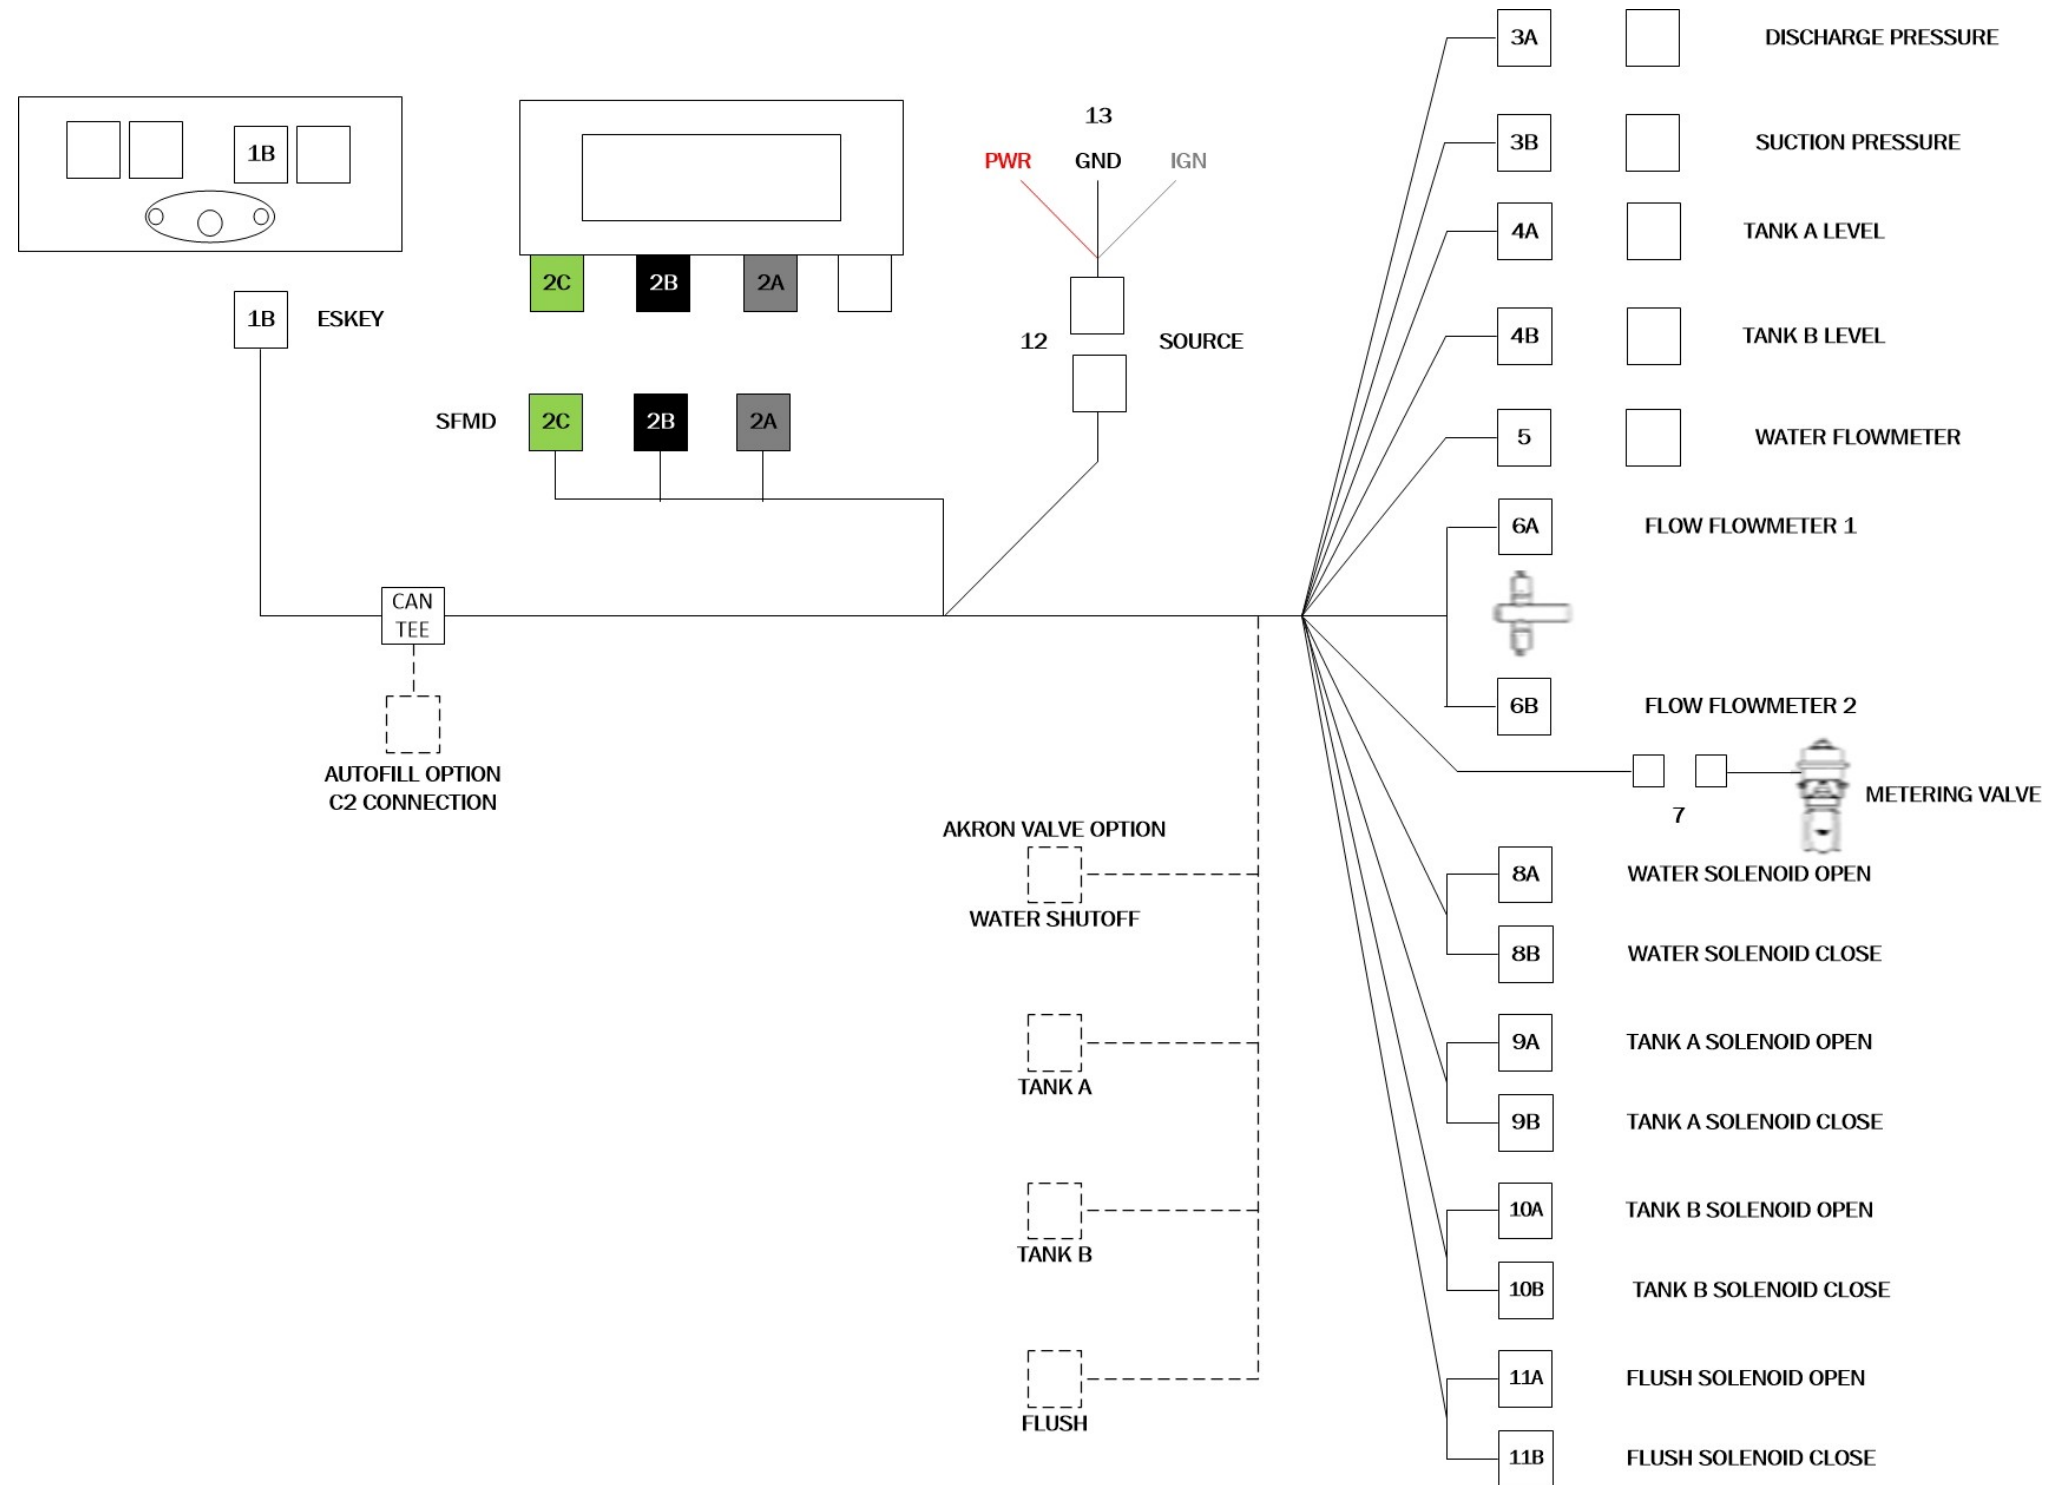
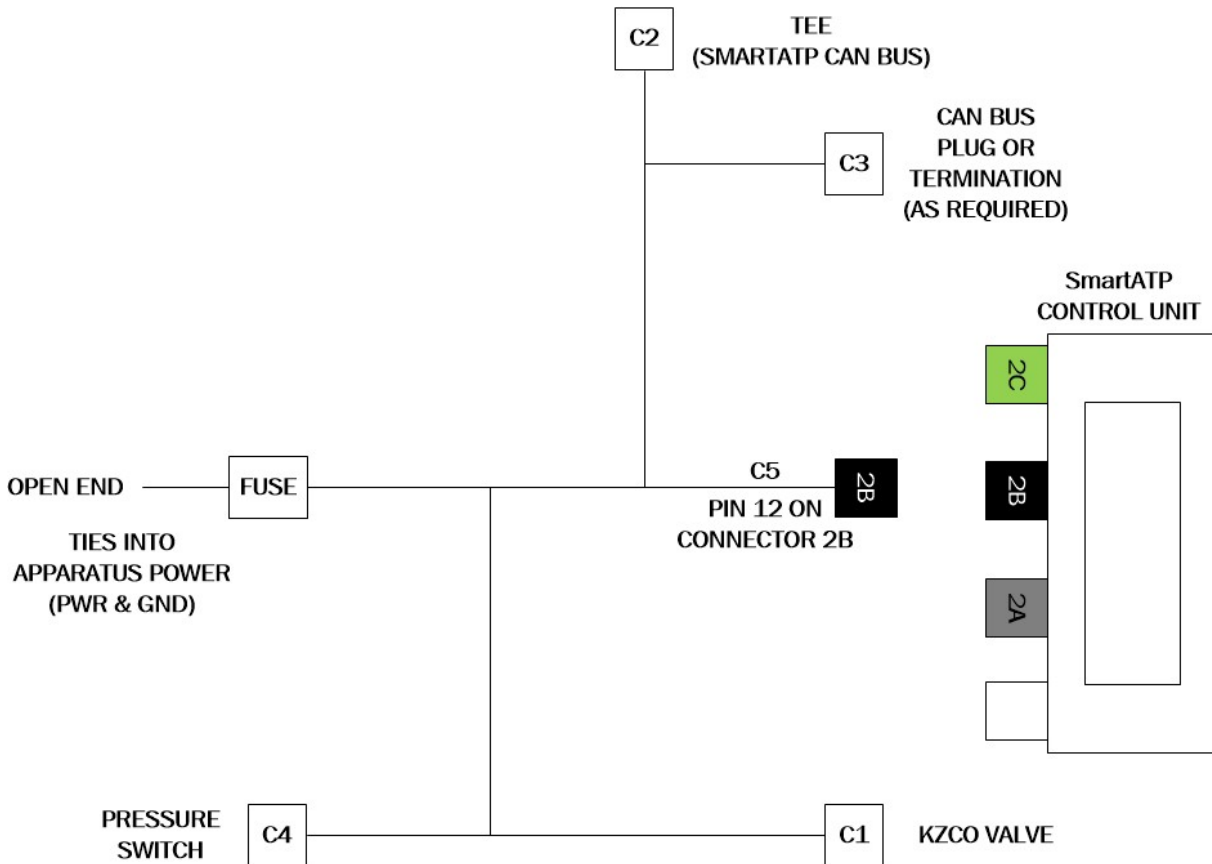

Figure 2. SmartATP Connection Diagram
Figure 3. Autofill Connection Diagram
Figure 2 depicts the two main wiring harnesses used for the SmartATP and includes the associated connections. Use care when connecting the harness to the SmartATP control unit, verify the connector orientation (the connectors are keyed to prevent reverse orientation) before applying the force required to seat the connector. The force required to seat a connector is very close to the force that defeats the connector keying.
When standard solenoid/air actuated valves are utilized ONLY the components shown using solid lines (on Figure 2) are supported and the system uses the 513-00137-000 wiring harness. The SmartATP does NOT include the eight (8) open/close relays/solenoids which are required but OEM supplied.
When the optional Akron Brass valves are utilized additional CAN connections are required for the valves, ONLY the valves shown using dotted lines (on Figure 2) are supported, and the system uses the 513-00137-001 wiring harness. Additionally, the Akron Brass valves require CAN bus registration. (Refer to Section 5.16, Optional Akron Brass Valves, in the SmartATP OIM manual [FSG-MNL-00193].)
Figure 3 shows the autofill wiring harness (P/N 513-00097-000) and its connections, which is optionally available for the SmartATP as an automatic tank fill system. The Hale autofill is an integrated tank filling system designed to begin filling the onboard water tank when the tank level drops to 75% of FULL and then shutoff when the tank is within one-eighth of FULL capacity. The SmartATP display provides the operator the tanks fill level by displaying the liquid volume accurate to 1/8 of the tanks volume on the autofill screen.
Hale supplies a wire harness (see Figure 2 or Figure 3) based on the SmartATP option(s) selected at the time of purchase (one tank vs two tanks, with autofill, electric vs air valves, etc.) The installer may need to supply connectors that mate with connectors on the Hale SmartATP wiring harness. Table 11 lists the mating connector and the associated terminal part numbers used with the Hale SmartATP harness.